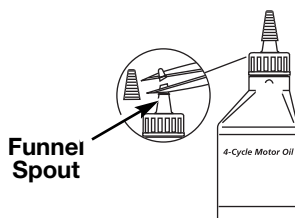

Fig. 3
Your unit is supplied with one 3.04 fluid oz. (90 ml.) bottle of SAE 30 SF, SG, SH oil (Fig. 3).
1. Unscrew the top of the bottle of oil and remove the paper seal covering the opening. Replace the top. Next, cut the tip off the funnel spout (Fig. 3).